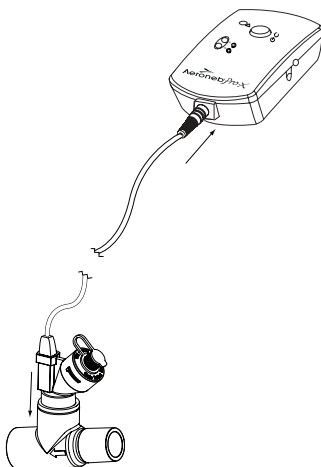

Figure 4: Connecting control module and nebulizer unit
3. Connect the Aeroneb® Pro-X control module to the Aeroneb® Solo nebulizer unit using the nebulizer cable as shown in Figure 4.